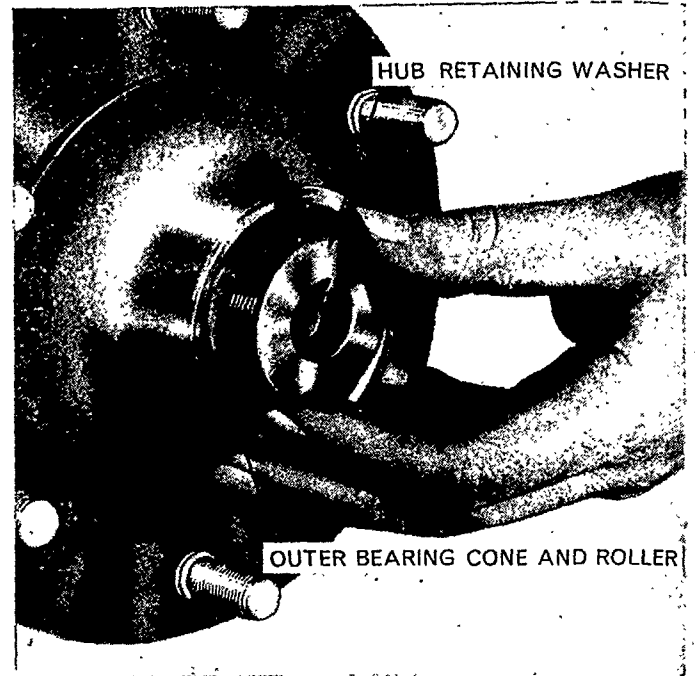

Figure 5
6. Install the front wheel inner bearing cone and roller assembly on the front wheel spindle, Figure 5.